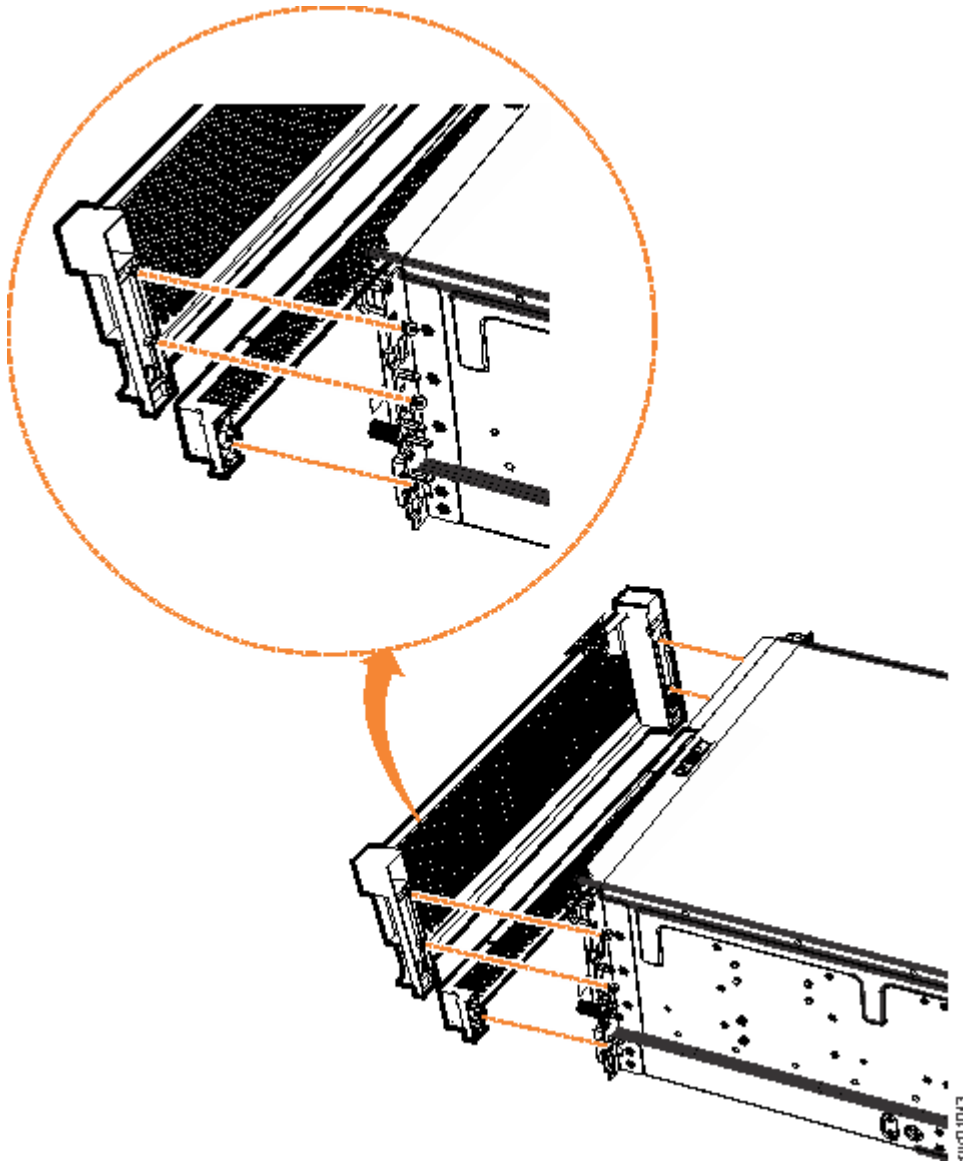

Figure 69. Replace fascia components on the expansion enclosure
1. Align the front 4U fascia with the enclosure so that the thumbscrews go through the holes on each side. As Figure 69 on page 67 shows, this action aligns the screw holes on the back of the fascia with the screw holes on the front flange of the enclosure.
3. Reattach the bottom 1U fascia that covers the power supply units (PSUs). Align the fascia with the enclosure and gently push it until it clicks into place on the chassis, as shown in Figure 69 on page 67.